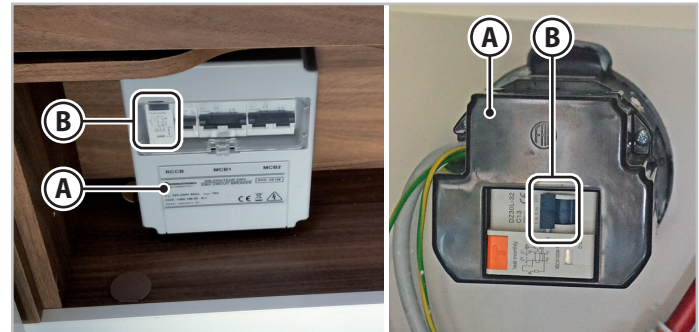

Fig.6.28 - Power supply panel
The vehicle's 220 V (**A** - Fig.6.28) power supply panel is protected by a two-pole magnetic thermal-differential switch (**B** - Fig.6.28). The power supply socket has a third earth pole as required by law.
1. Lower the levers (**B** - Fig.6.28) of the differential switch.
5. Lift the levers (**B** - Fig.6.28) of the differential switch.